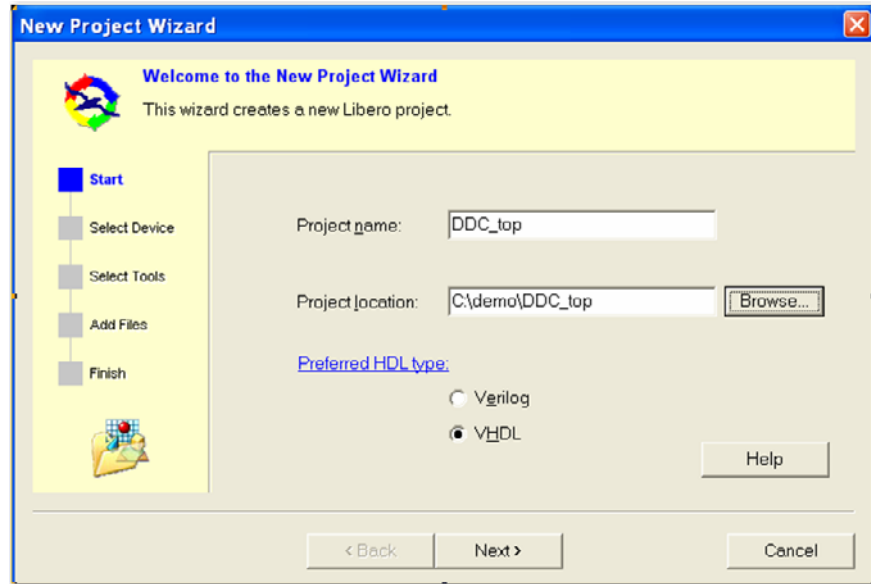

Figure 2-7. Libero IDE New Project Wizard
- From the Project menu, select New Project. This displays the New Project dialog box, as shown in Figure 2-7.